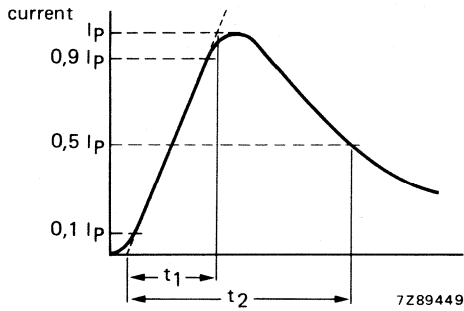

Fig. 5.
6. High energy surges are generally of longer duration. The max. energy for 1 minute 10/1000 μs is given as a reference for long duration impulses. This impulse can be characterized by peak current I_p and impulse width t_2 (virtual time to half I_p value, defined in IEC 60-2 section 6), see Fig. 5. If V_p is the clamping voltage corresponding to I_p , the energy absorbed in the VDR is determined by equation $E = K \cdot V_p \cdot I_p \cdot t_2$; K depends on t_2 . When t_1 is 8 to 10 μs and $t_2 = 20 \mu\text{s}$, $K = 1$; when $t_2 = 50 \mu\text{s}$, $K = 1,2$; when $t_2 = 100 \mu\text{s}$, $K = 1,3$; when $t_2 = 1000 \mu\text{s}$, $K = 1,4$.